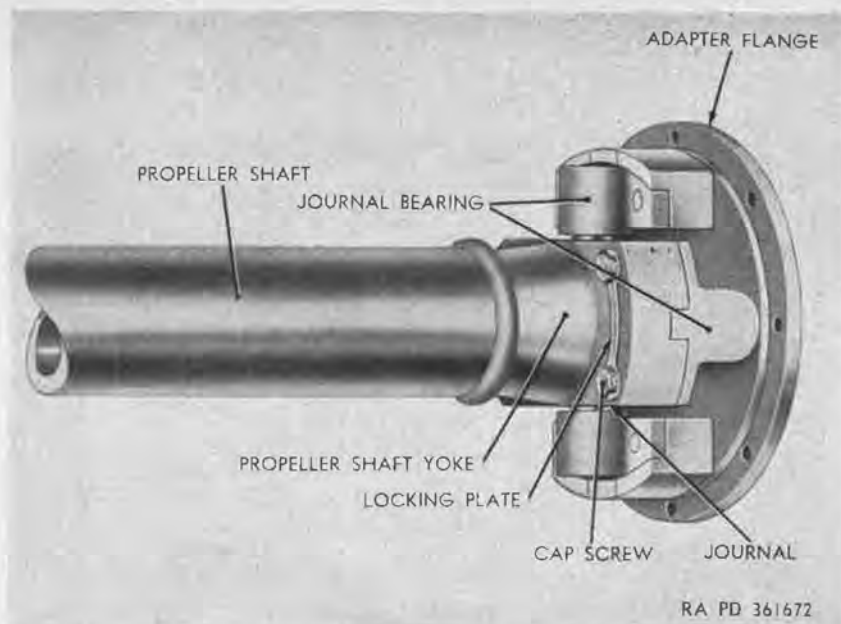

Figure 216. Flange-mounted universal joint.
c. Universal Joints. The universal joint (figs. 215 and 216) installed at each end of the propeller shaft consists of a journal with four journal bearings, two of which are secured with cap screws to the propeller shaft yoke. The other two journal bearings are secured by cap screws either to a yoke (fig. 215) installed on the driven shaft, or to an adapter flange (fig. 216) which is bolted to a companion flange installed on the driven shaft.
- (5) Position locking plate over holes in other arm of yoke, and install two cap screws in holes in locking plate, yoke, and journal bearing. Tighten cap screws, and bend locking plates up flat against cap screw heads.
- (6) Repeat (4) and (5) above at other end of propeller shaft assembly.
c. Removal (With Flange-Mounted Universal Joints) (fig. 216).
- (1) Remove eight self-locking nuts and bolts securing adapter flange at one end of propeller shaft assembly to companion
- (2) Repeat (1) above at other end of propeller shaft assembly, and remove propeller shaft assembly from vehicle.
- (3) Remove four cap screws and lockwashers securing two journal bearings to adapter flange, and remove adapter flange from journal and bearing assembly.
- (4) Bend down two locking plates, remove four cap screws securing two journal bearings (two cap screws from each bearing) to propeller shaft yoke, and remove journal and bearing assembly from yoke.
- (5) Repeat (3) and (4) above at other end of propeller shaft assembly.
d. Installation (With Flange-Mounted Universal Joints) (fig. 216).
- (1) Position journal and bearing assembly at propeller shaft yoke, position locking plate on yoke, and install two cap screws in holes in locking plate, yoke, and journal bearing.
- (2) Position locking plate over holes in other arm of yoke, and install two cap screws in holes in locking plate, yoke, and journal bearing. Tighten cap screws, and bend locking plates up flat against cap screw heads.
- (3) Position adapter flange at journal and bearing assembly, and install four cap screws and lockwashers in holes in flange and two journal bearings.
- (4) Repeat (1), (2), and (3) above at other end of propeller shaft assembly.
- (5) Position adapted flange on one end of propeller shaft assembly at companion flange on driven shaft, and install eight bolts with self-locking nuts in holes in flanges. Tighten nuts.